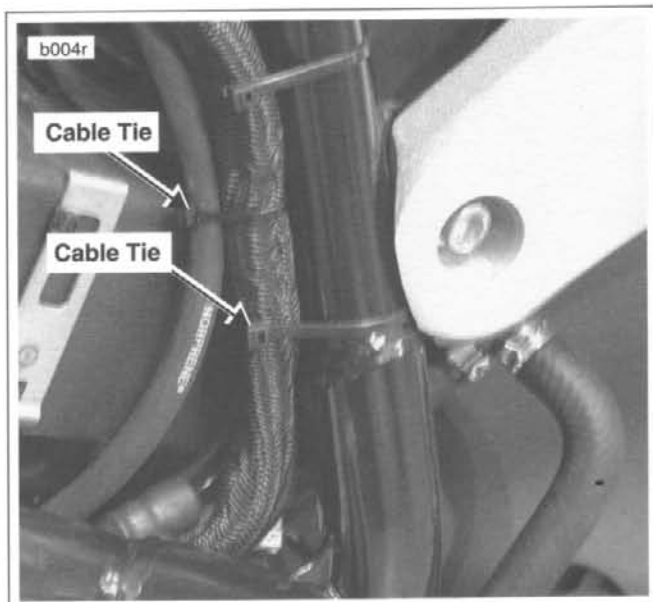

Figure 2-91. Rear Brake Line - Left Side
12. See Figure 2-91. Cut cable tie on wiring harness and cable tie on vent tube on left side of bike.
10. See Figure 2-91. Cable tie vent hose and wire harness to frame on left side of motorcycle. NOTE: Use thick cable tie on wire harness and thin cable tie on vent hose. Use care to avoid pinching hose.